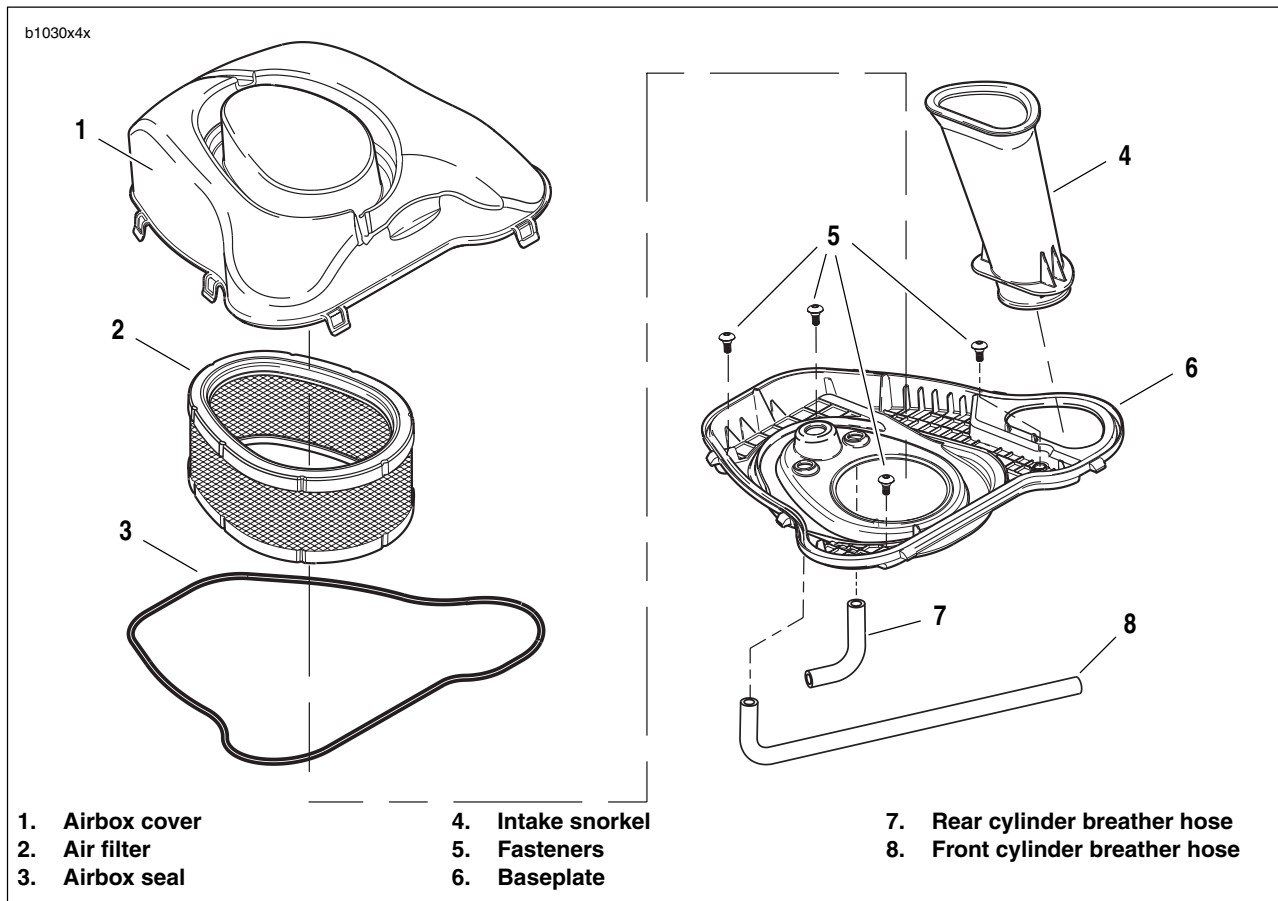

Figure 4-119. Airbox (Typical XB9)
6. See Figure 4-119. Install baseplate (6) to frame with four fasteners and washers (5). Tighten fasteners to 84-120 in-lbs (9.5-13.6 Nm).